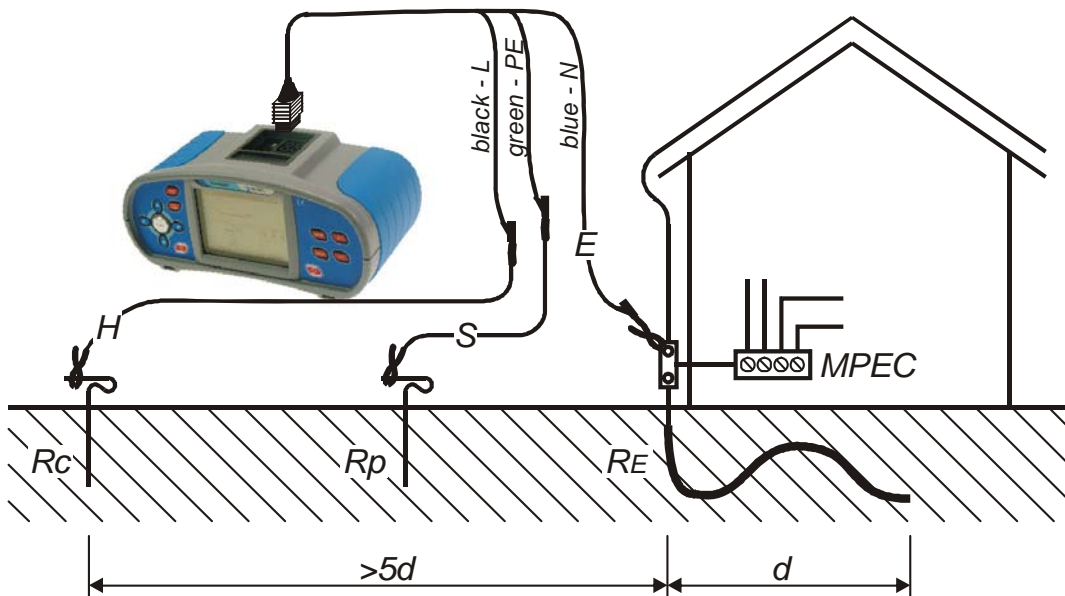

Figure 5.49: Resistance to earth measurement – PE grounding
- ❑ **Connect** test leads to the tested object (see figures 5.49 and 5.50).